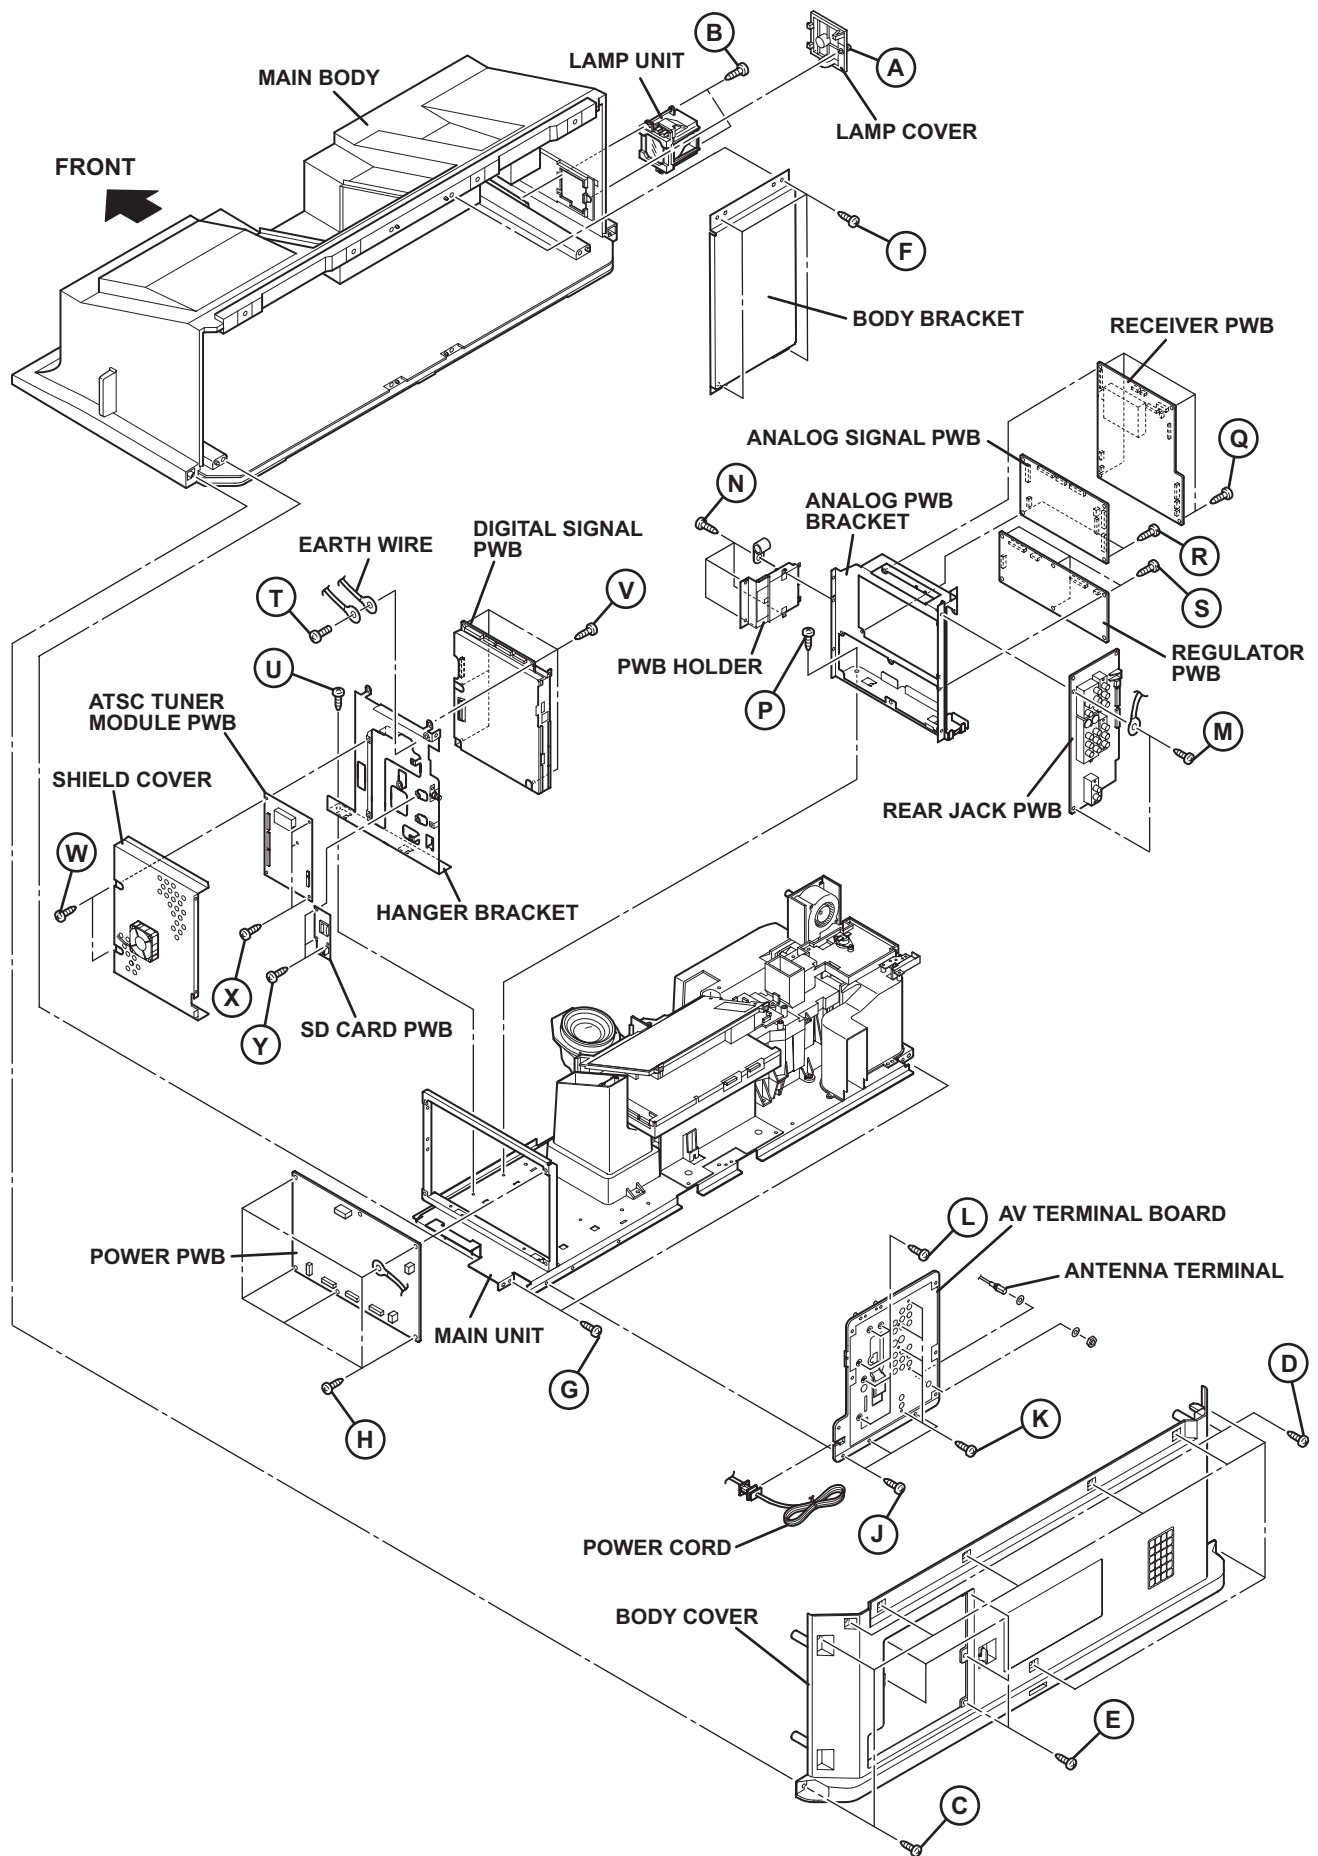

Fig.4
3.1.3.4 REMOVING THE POWER PWB (Fig.4)
3.1.3.5 REMOVING THE AV TERMINAL BOARD (Fig.4)
3.1.3.6 REMOVING THE REAR JACK PWB (Fig.4)
- (1) Remove the 2 screws [M].
- (2) Remove the REAR JACK PWB.
3.1.3.7 REMOVING THE RECEIVER PWB (Fig.4)
3.1.3.8 REMOVING THE ANALOG SIGNAL PWB (Fig.4)
- (1) Remove the 2 screws [R].
- (2) Remove the ANALOG SIGNAL PWB.
3.1.3.9 REMOVING THE REGULATOR PWB (Fig.4)
- (1) Remove the 4 screws **[S]**.
- (2) Remove the REGULATOR PWB.
3.1.3.10 REMOVING THE DIGITAL SIGNAL PWB (Fig.4)
3.1.3.11 REMOVING THE ATSC TUNER MODULE PWB (Fig.4)
3.1.3.12 REMOVING THE SD CARD PWB (Fig.4)